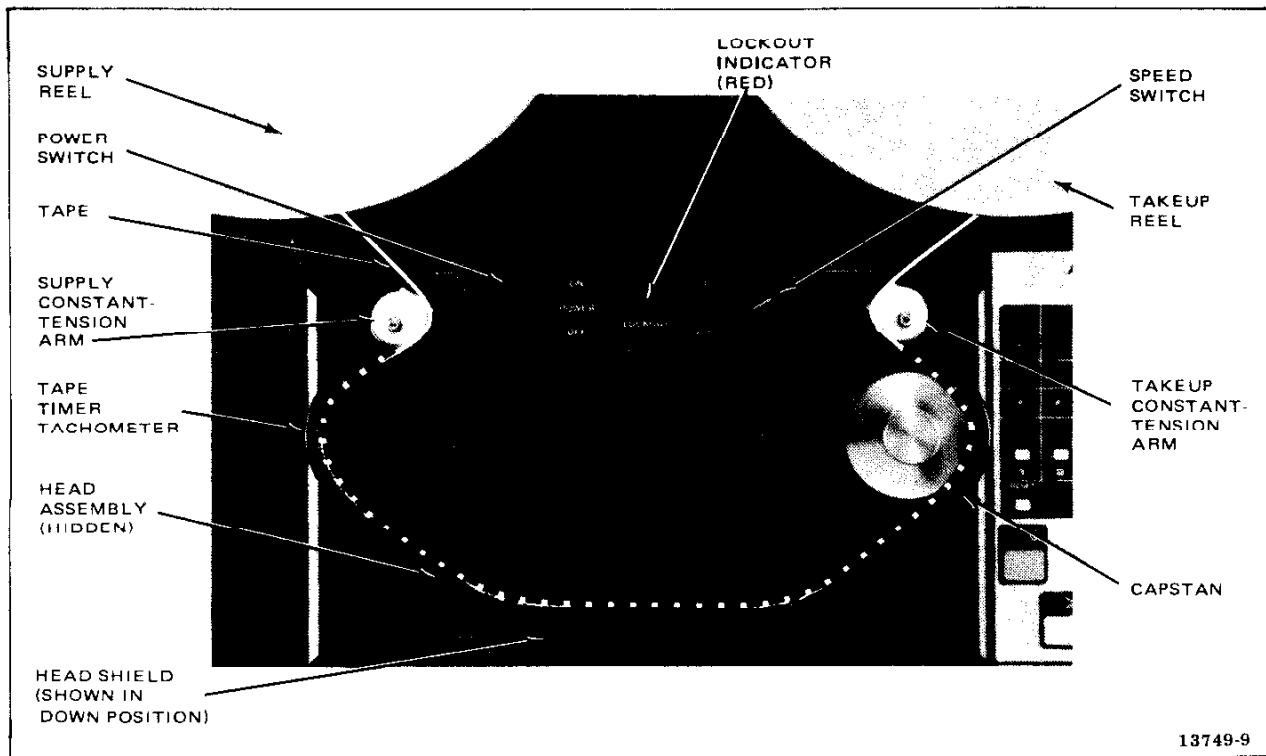

Figure 3-1. Tape Threading Path
See Figure 3-1 and perform the following preoperational procedure.
Figure 3-1. Reels up to 14 inches (16.54 cm) in diameter and in any size combination may be used. (Note: If reels larger than 11-1/2 inches (29.21 cm) are used, reel motors must be in the "outer" position. Refer to paragraph 2-22).
6. Thread tape on transport as shown in Figure 3-1. The tape path is from the supply reel, around the inside of the supply constant-tension arm, around the tape timer wheel, across the head assembly, around the capstan, around the inside of the takeup constant-tension arm, and onto the takeup reel.